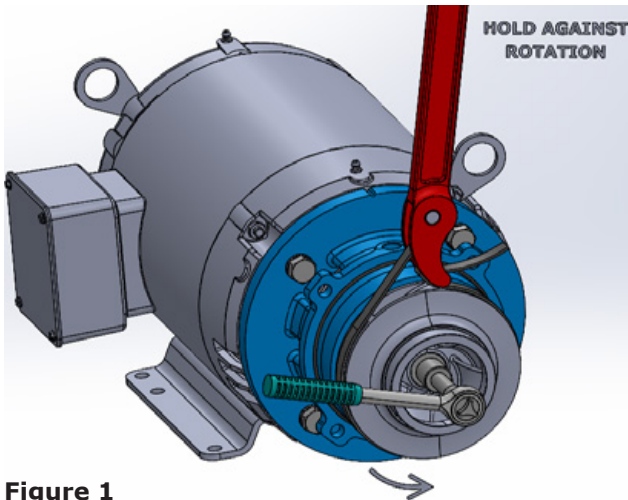

Figure 1
7. Place strap wrench around outer diameter of the impeller to hold against rotation. Remove the impeller retaining bolt with a socket wrench turning counterclockwise. (Figure 1).